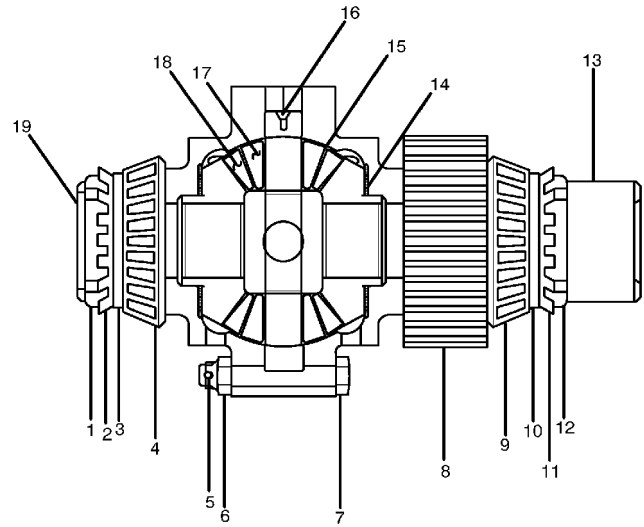

Figure 4. Bevel Gear Differential Assembly.
Legend for Figure 4.
- (1) Straighten tangs of locking washers (Figure 4, Items 2 and 11), remove pat locknuts (1 and 12), locking washers (2 and 11), and spacers (3 and 10) from bevel gear differential case (13 and 19).
- (2) With the use of a puller, remove bearing cones (Figure 4, Items 4 and 9) and gear (8) from bevel gear differential case (13 and 19).
- (3) Remove eight cotter pins (Figure 4, Item 5), castle nuts (6) and capscrews (7) from bevel gear differential case (13 and 19).
- (4) Remove two thrust washers (Figure 4, Item 14), two side gears (18), four pinion thrust washers (15), four pinions (17), and spider (16) from bevel gear differential case (13 and 19).